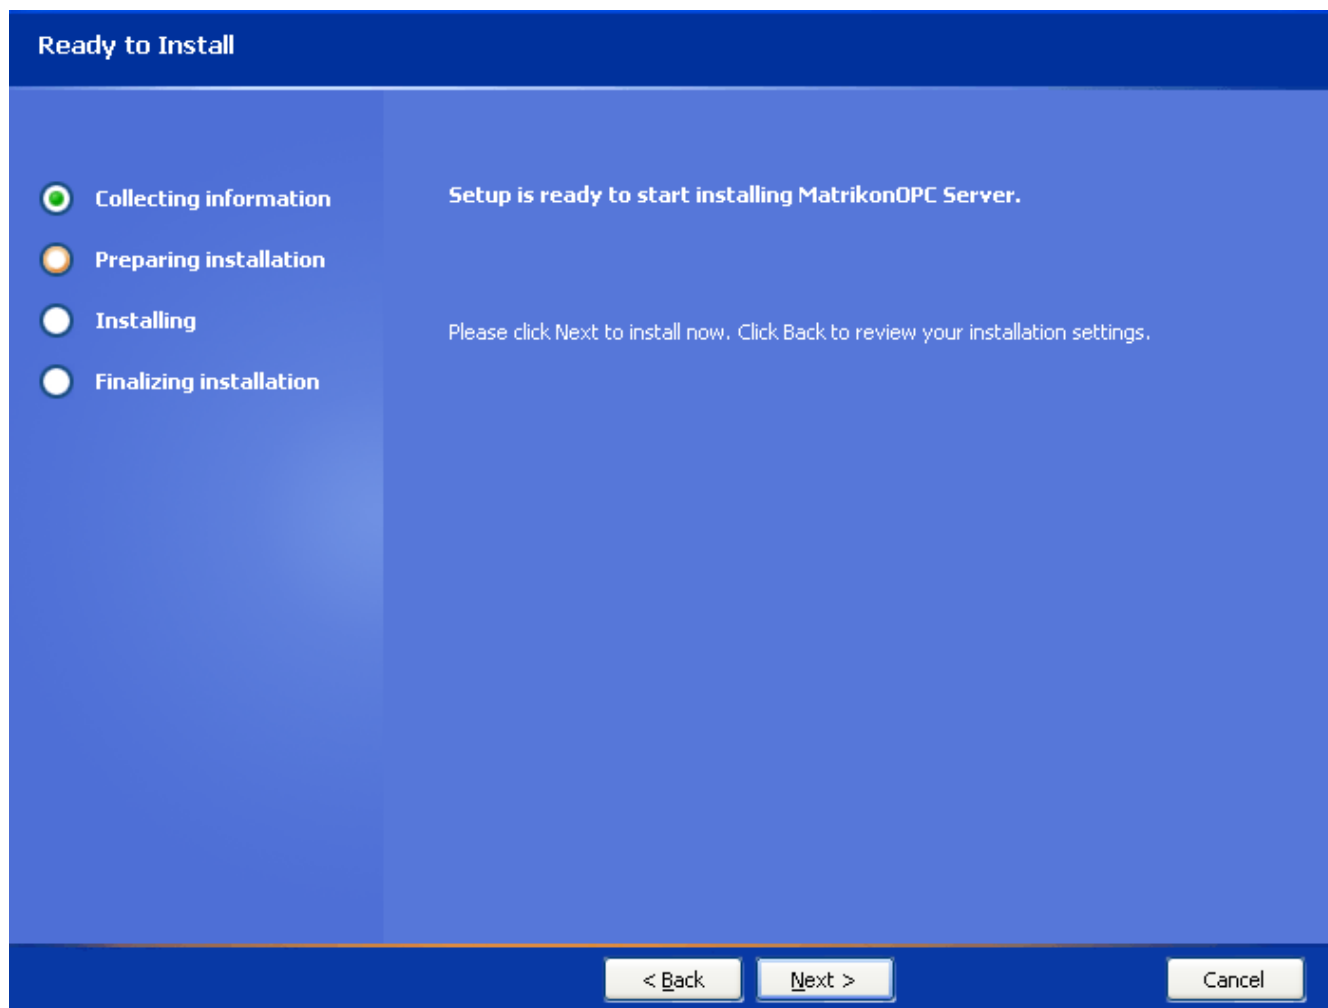

Figure 87 - Ready to Install Screen
19. Click on the **Next** button. The **Ready to Install** screen (Figure 87) appears.